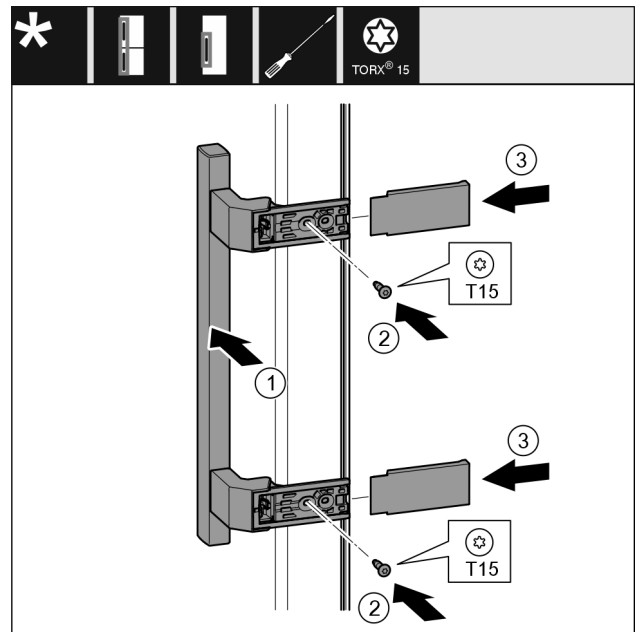

Fig. 23
- Place the handle Fig. 23 (1) on the opposite side.
- Tighten screws Fig. 23 (2) with screwdriver.
- Place the covers Fig. 23 (3) on the side and push them on.